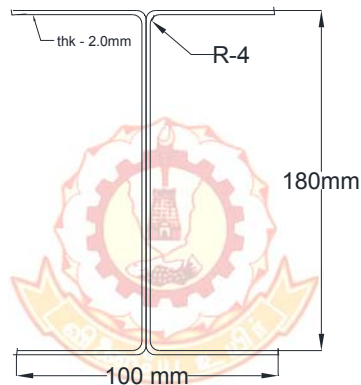

Figure-2
2. An I section shown in figure-2 is used as an axially loaded compression member having an effective length of 4.5m. If it is made of St-42-1079 steel [$F_y=2400\text{kg/mm}^2$, $F=1450\text{kg/mm}^2$] determine the allowable load on the column.